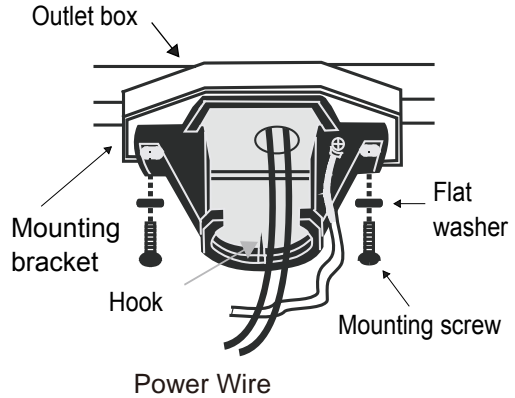

Fig. 3
Step 1. Pass the power wires through the center hole in the mounting bracket as shown in Fig. 3.